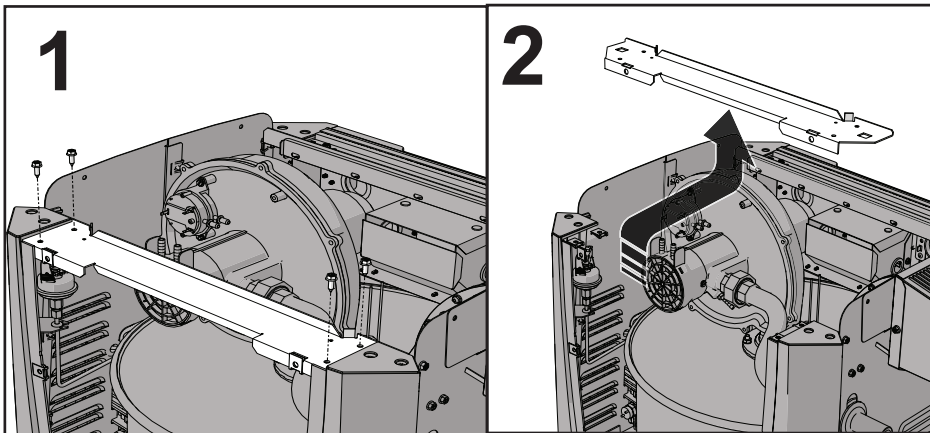

Figure 38. Remove Rear Brace Bar
10. Unscrew four (4) hex head screws and remove the rear brace bar for easier access to the gas train (Figure 38).